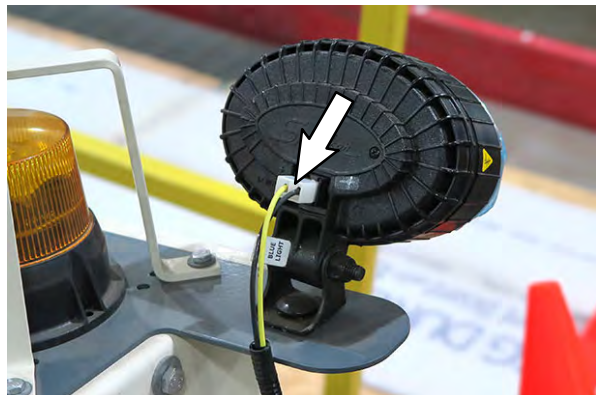
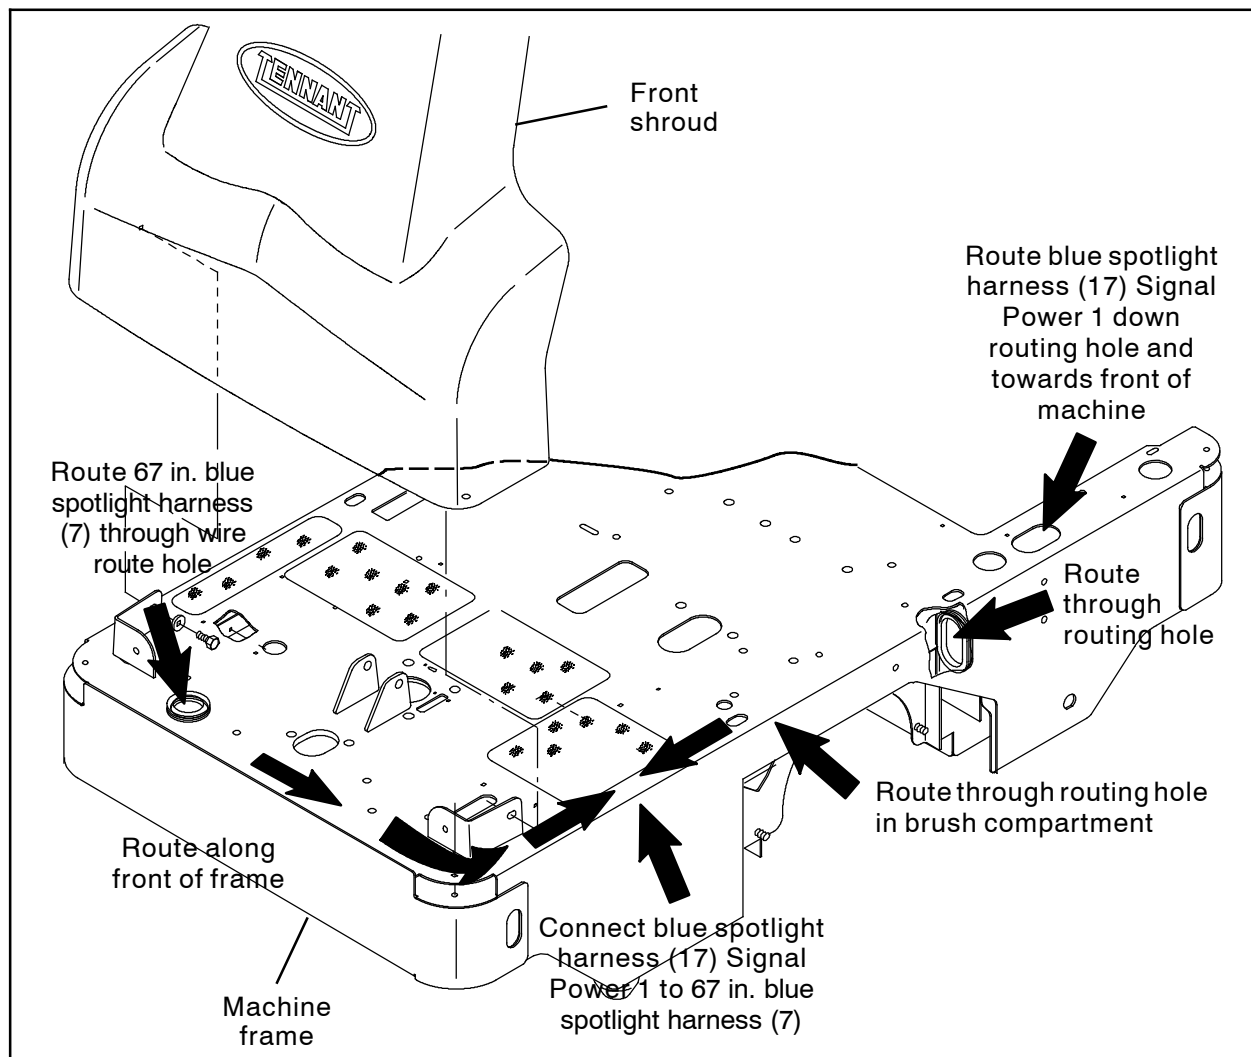

**FIG. 14**
**FIG. 20**
28. Connect the 24 in. blue spotlight harness (16) to the blue LED spotlight (1) installed on the back of the machine. (Fig. 14)
32. Route the blue spotlight harness (17) Signal Power 2 lead through the hole in the rear lintel towards the back of the machine and connect the blue spotlight harness to the 24 in. blue spotlight harness (16). (Fig. 20/Fig. 19/ Fig. 14)